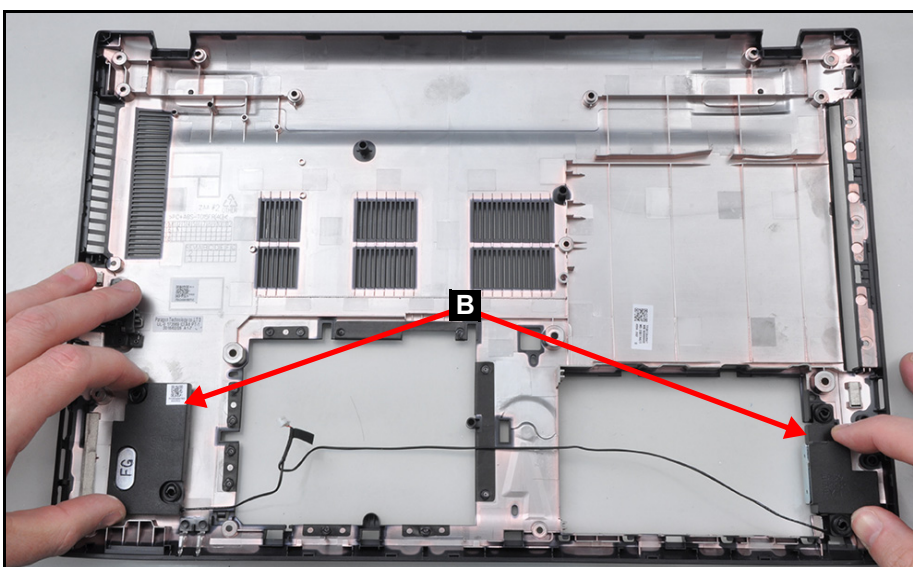

Figure 3-22. Speaker Module Removal
3. Carefully pry up the speaker module (B) and remove it (Figure 3-22).